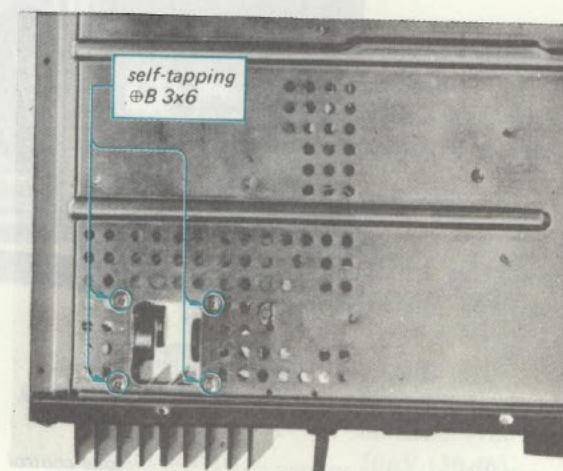

Fig. 2-18. Heat sink removal
2. Remove the four self-tapping screws ($\oplus B 3 \times 8$) securing the heat sink to the chassis as shown in Fig. 2-18.